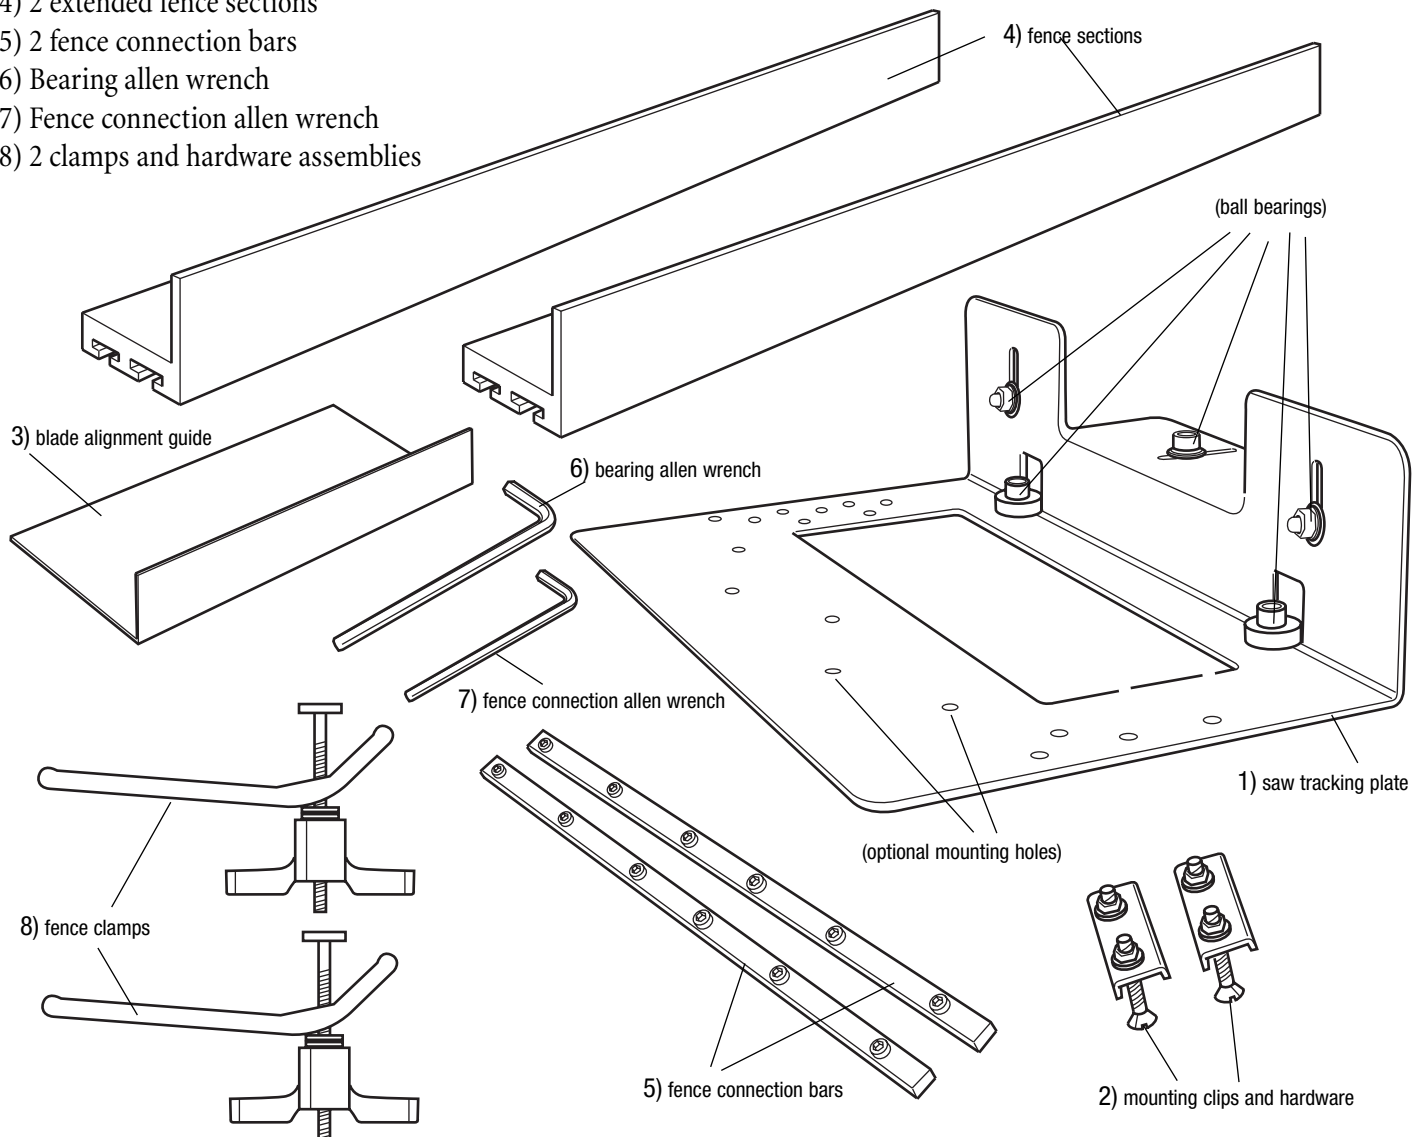

fig. 1 - System Components
**Components** (refer to fig. 1)